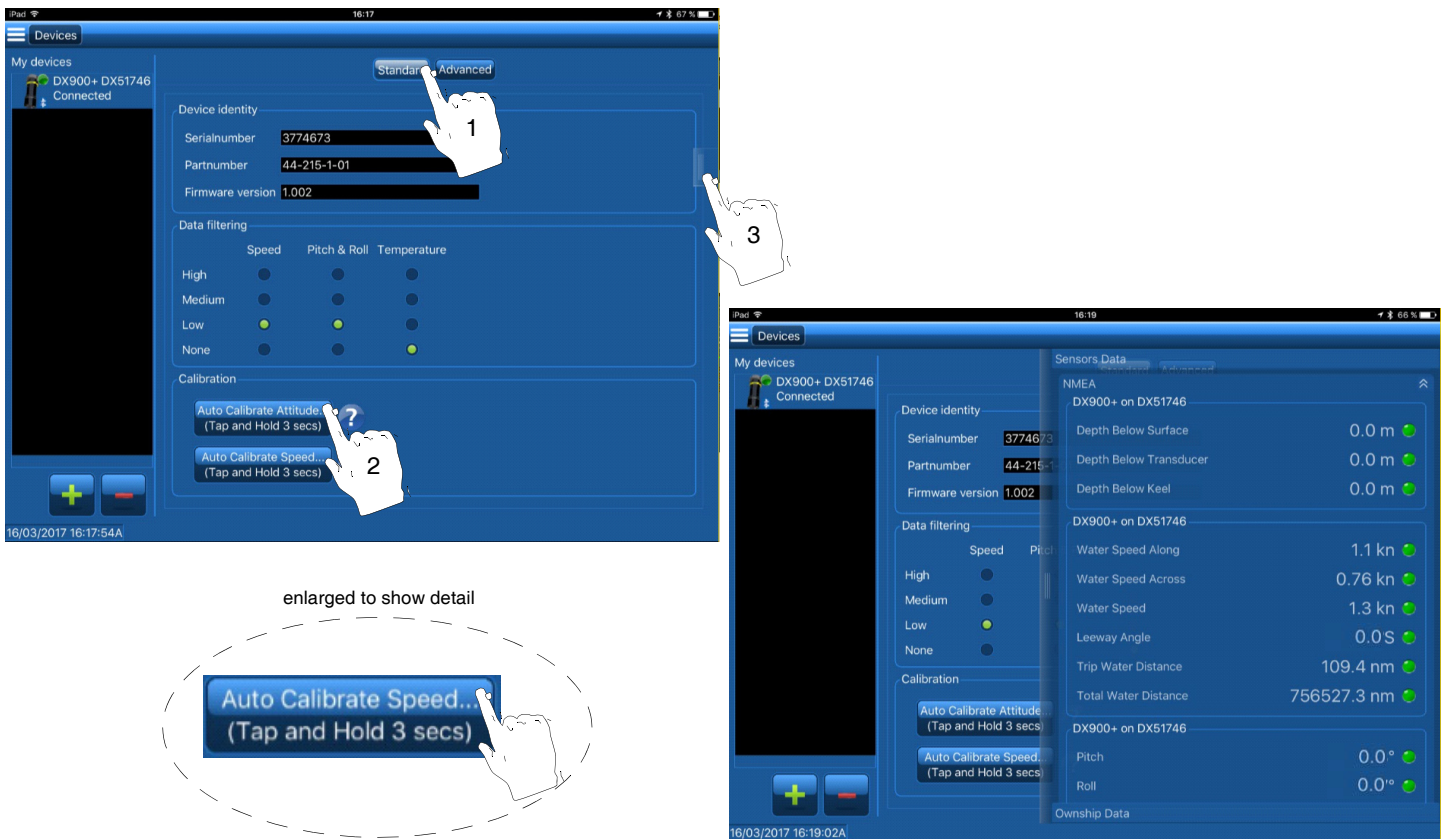

Figure 10. Auto-calibrate Speed
5. Touch **Standard** (Figure 10).